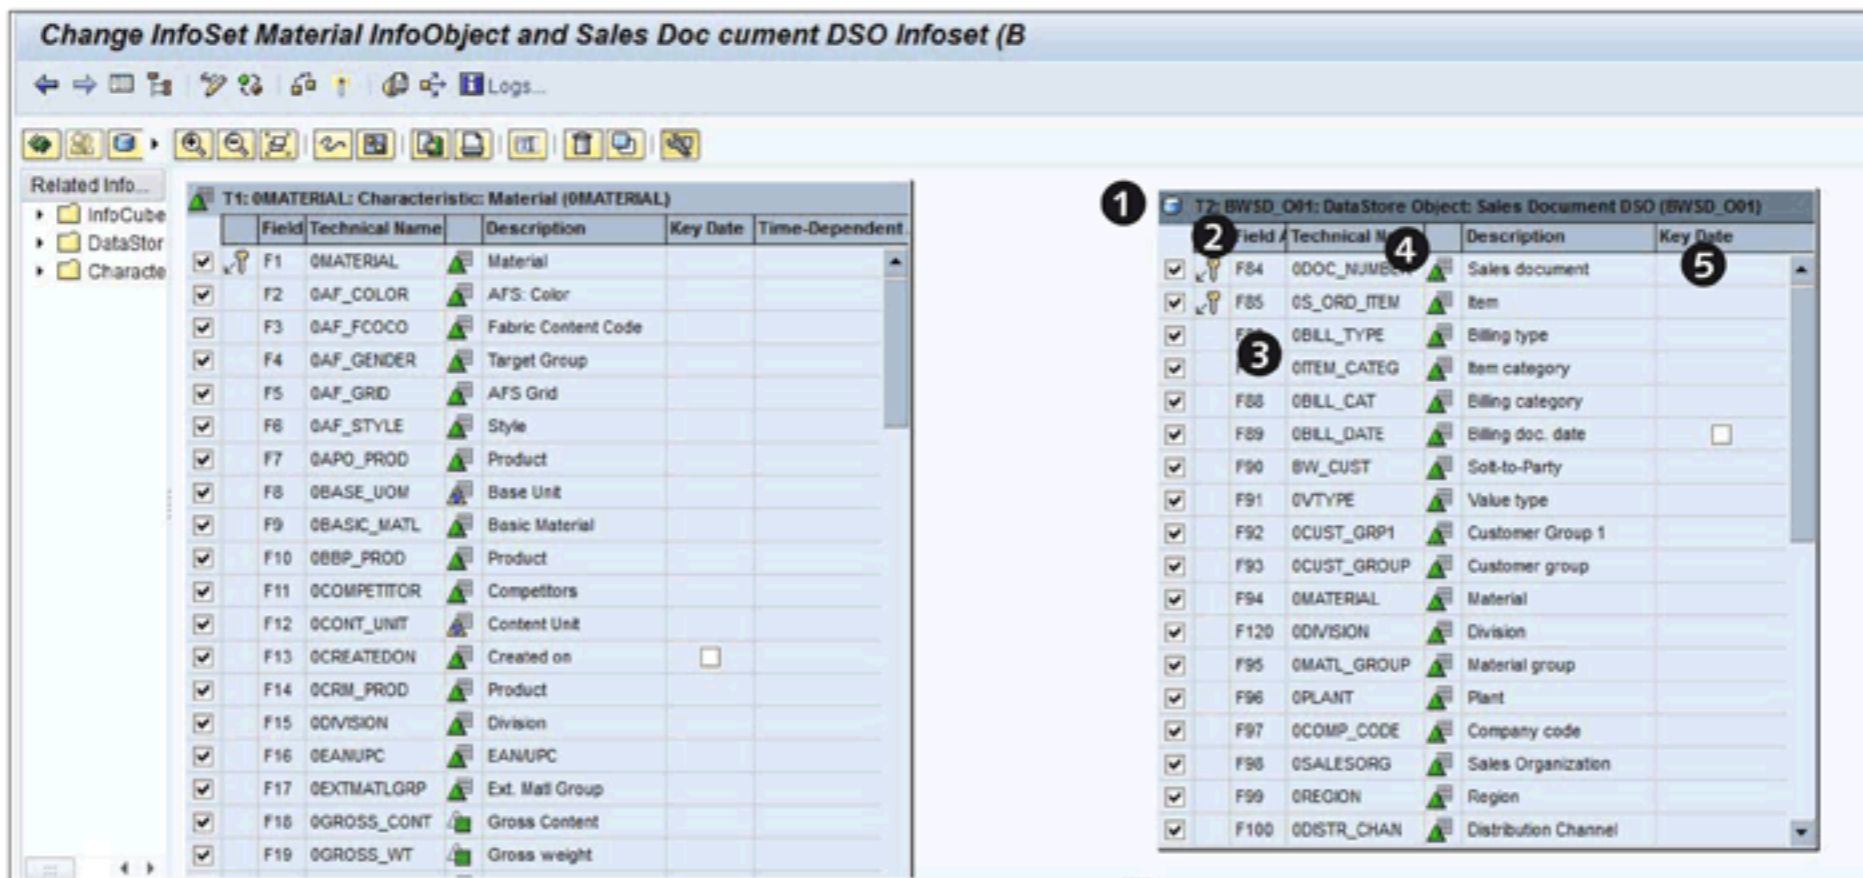

Figure 6.23 Second Source Inserted
An InfoSet is created using InfoObjects BW_CUST and DSO BWSD_O01 with the customer number as the join between the two. The BILLING DATE field is used as a key date. (To understand how to set the key date, see the checkbox shown in 5 of Figure 6.23, later in this chapter.)
The screen now changes, as shown in Figure 6.23. The DSO BWSD_O01 is displayed (1). This time, the technical number attached to DSO BWSD_O01 is T2, and column 2 shows the KEY icon for ODOC_NUMBER and OS_ORD_ITEM. These two InfoObjects are configured as key fields of DSO BWSD_O01. The fields of BWSD_O01 are numbered starting from F84 (3). The fields F1 to F83 are used for InfoObject OMATERIAL, so the DSO BWSD_O01 fields are numbered from the next running number. Column 4 shows the technical name of the InfoObjects of DSO BWSD_O01. Column 5 shows the KEY DATE.